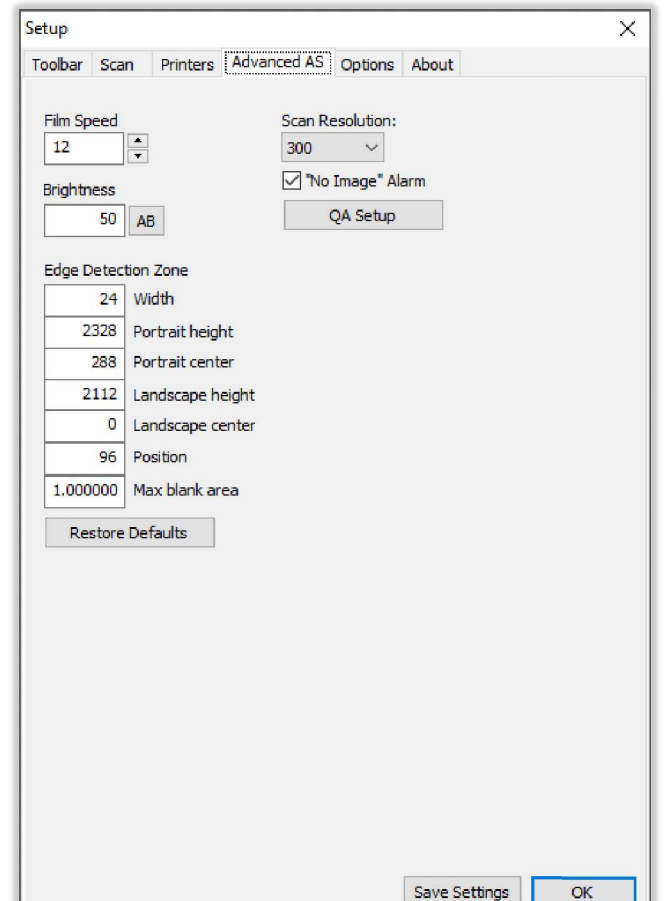

Figure 73
- Enter your *Setup* password and the *Advanced AS* tab of the *Setup* window will open to adjust advanced settings. *Figure 73*